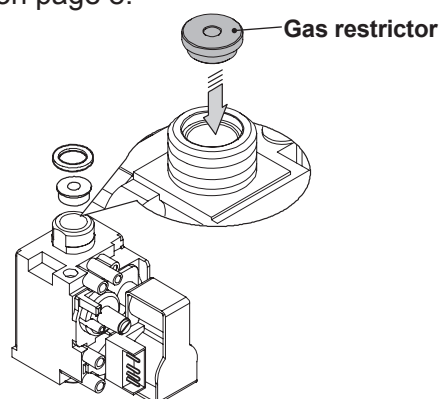

Figure 16.3
- Carry out gas conversion by correctly replacing the gas restrictor (Fig. 16.3), referring to the “Technical Information” section page 8.